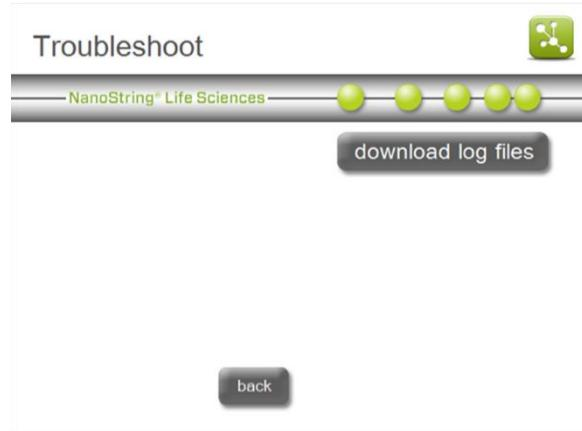

Figure 151: The 'Troubleshoot' screen.
1. Press **troubleshoot** on the Maintenance screen. The 'Troubleshoot' screen will appear (**Figure 151**).